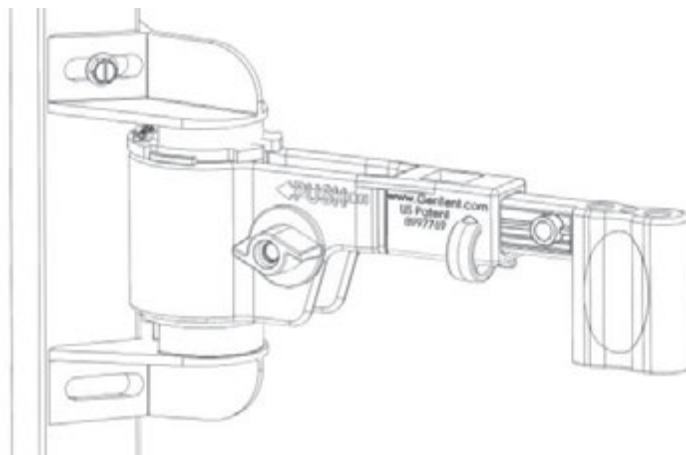

Fig. 1.4
- g. Figure 1.4 shows the GenTent Clamp installed onto the GTU.